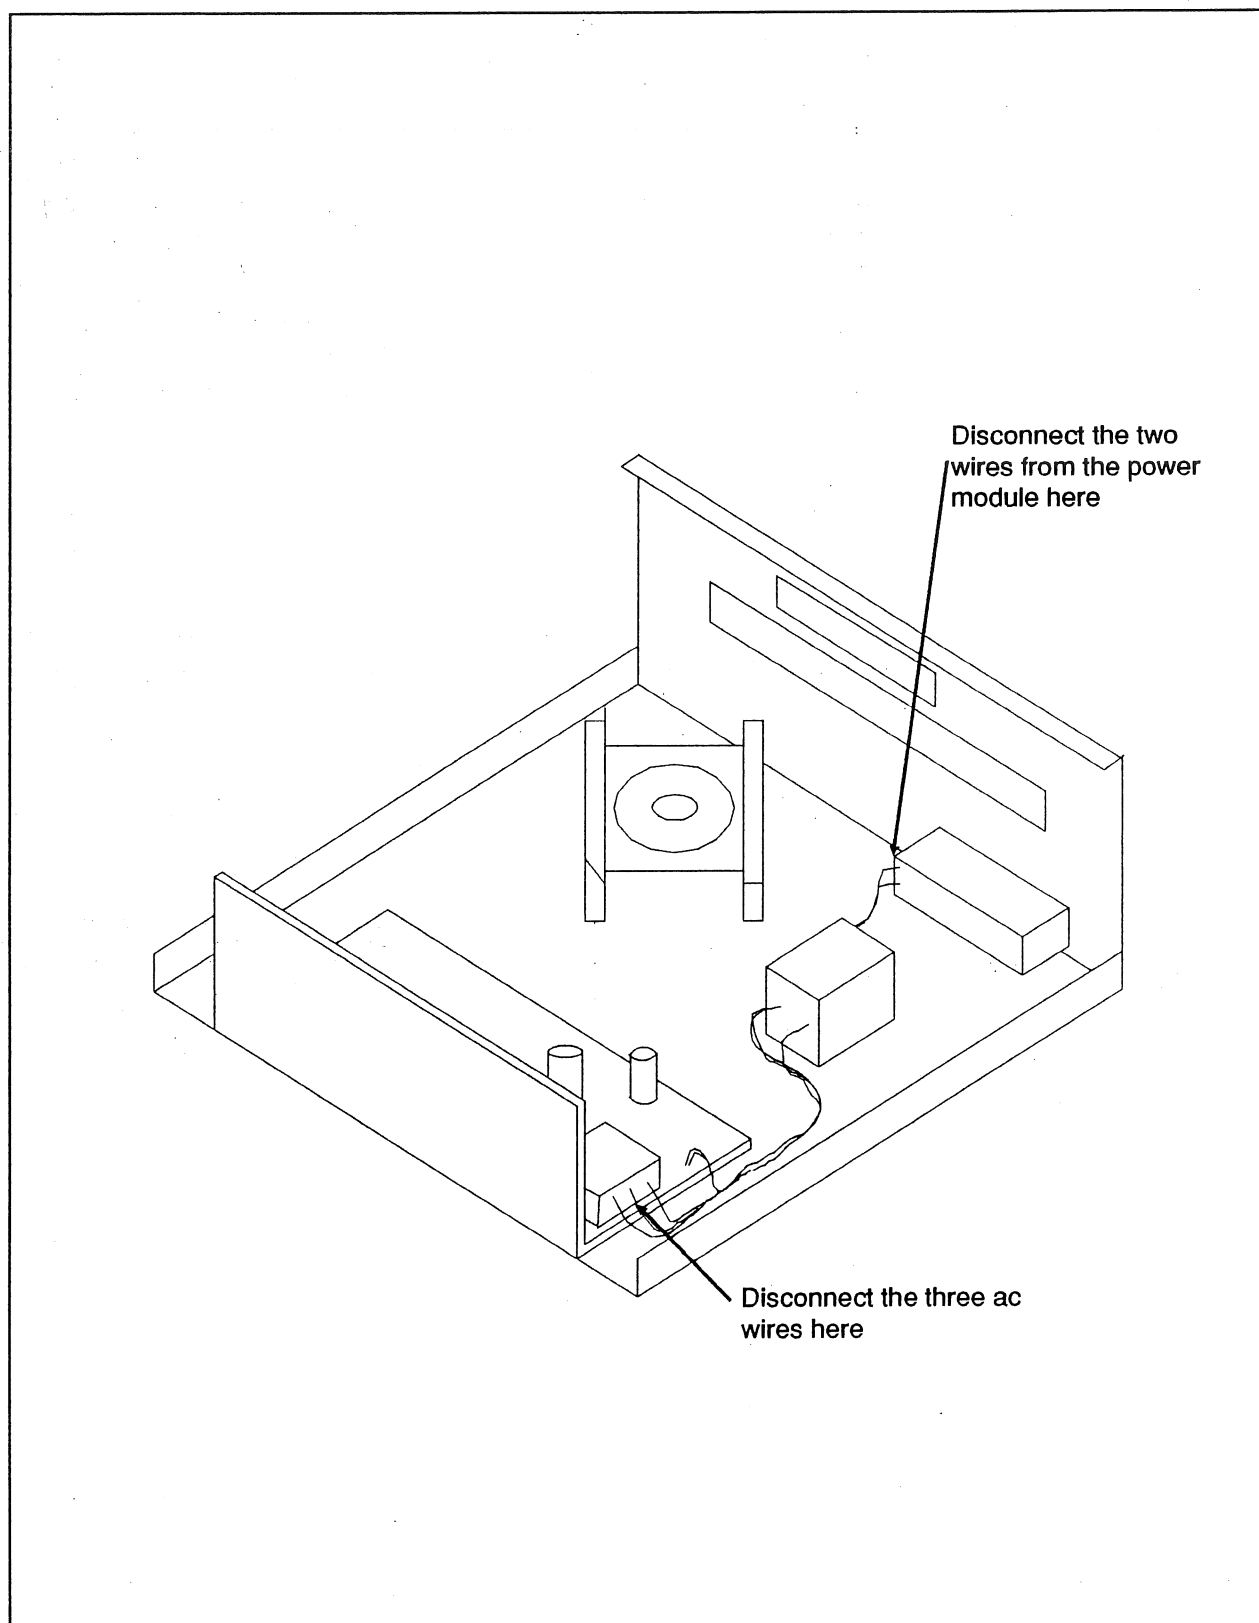

Figure 3-10. Power Supply
- 7** Disconnect the three ac wires from the power supply. See Figure 3-10